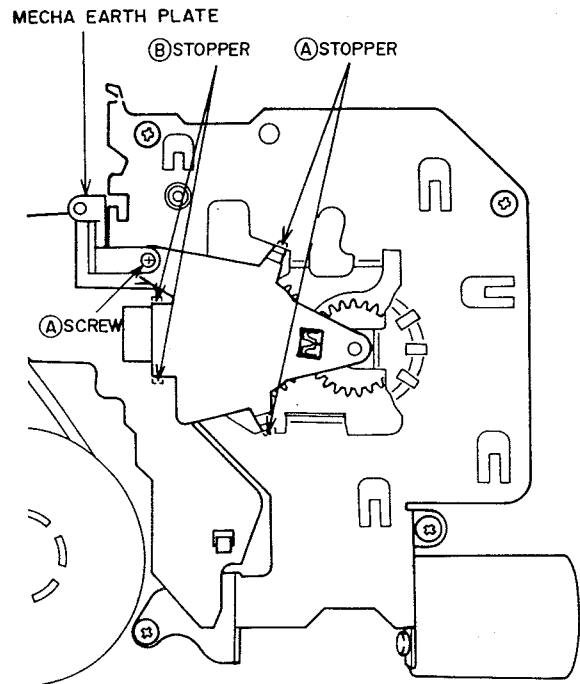

Fig. 3-5
- 1) Remove the (A) screw and remove the MECHA. EARTH PLATE.
- 2) Release the two (A) stoppers as shown in Fig. 3-5.